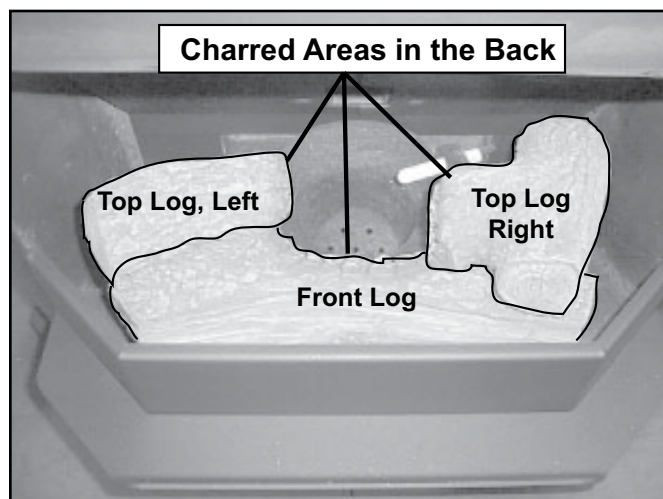

Figure 20.2
2. Set the left and right logs onto the front log, placing the holes in the base of the left and right logs over the locating pins in front log. See **Figure 20.2**. Ensure that the charred ends are facing the firepot.